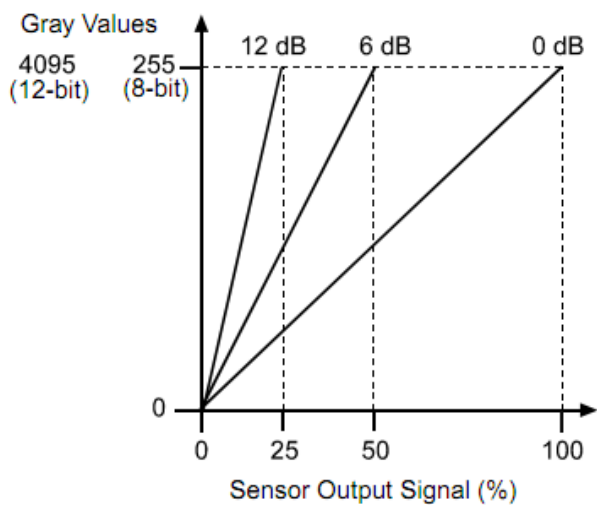

Figure 8-36 The cameras response curve
- When the analog gain changes, the response curve of the camera changes, as shown in Figure 8-36. The horizontal axis represents the output signal of the sensor in the camera, and the vertical axis represents the gray value of the output image.